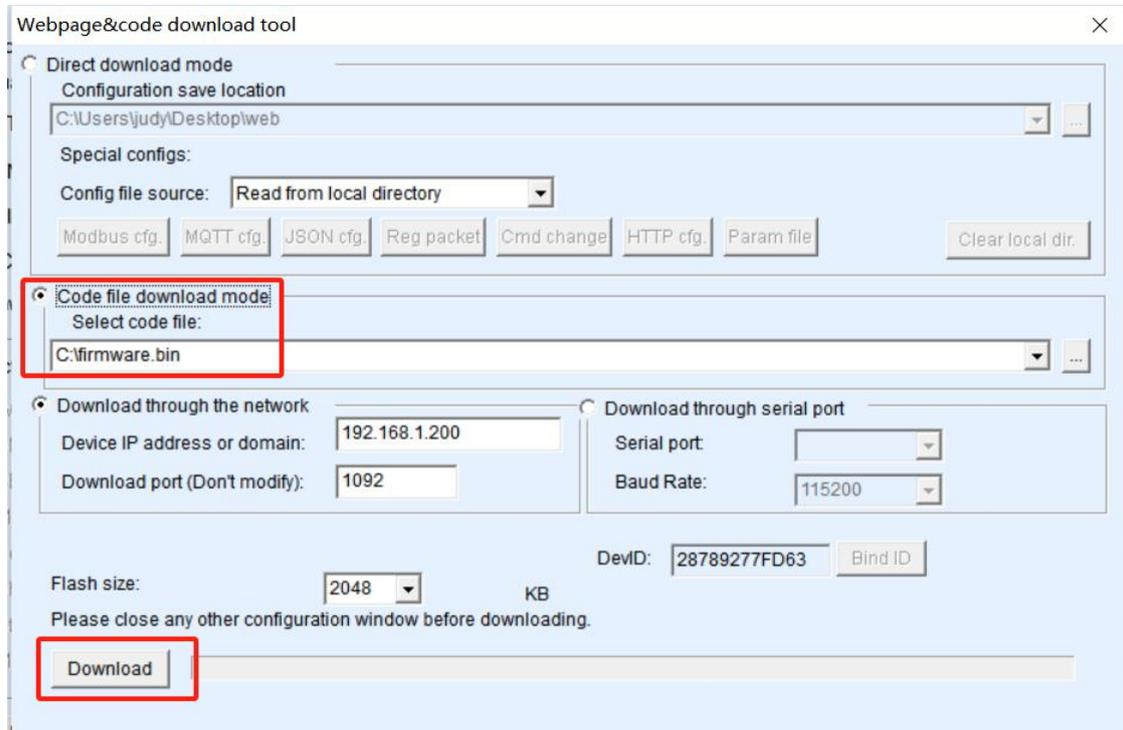

Figure 50 SN2007 firmware upgrade method
- 3 Select the "Program File Download" option, as shown in Figure 50. In the